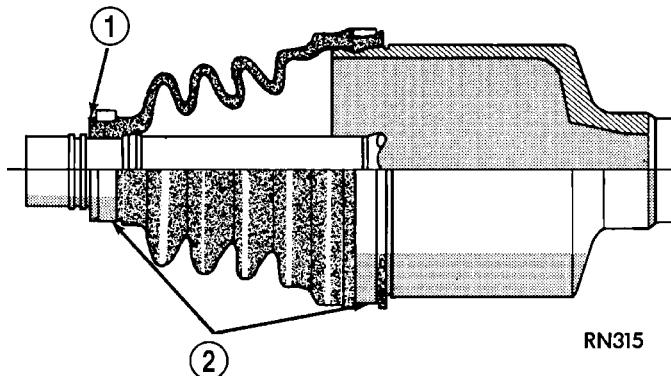

Fig. 29 Boot and Clamp Positioning
(8) Position the sealing boot into the tripod housing retaining groove (Fig. 29). Install seal boot retaining clamp evenly on sealing boot.
(9) Clamp sealing boot onto tripod housing using Crimper, Special Tool C-4975 and the following procedure. Place crimping tool C-4975 over bridge of clamp. Tighten nut on crimping tool C-4975 until jaws on tool are closed completely together, face to face.